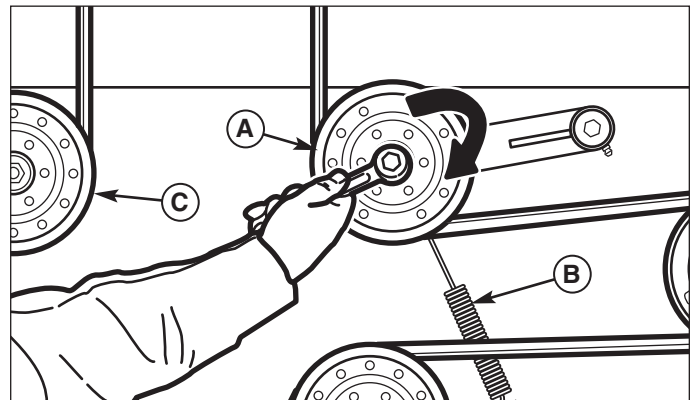
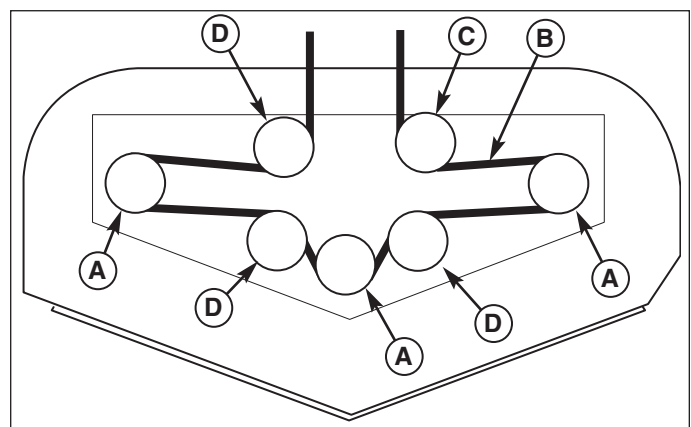

Figure 46. Mower PTO Belt
Figure 47. Mower PTO Belt Routing
4. Using a 3/4" combination wrench, rotate the spring-loaded idler pulley (A, Figure 46) clockwise to release the belt tension.
5. Slide the drive belt over the edge of the stationary idler pulley (C) and carefully release the tension on the wrench until the spring tension is completely released.
8. Rotate the spring-loaded idler pulley (A, Figure 46) clockwise and slide the drive belt over the edge of the stationary idler pulley (C). Make sure the V-side of the belt runs in the pulley grooves (Figure 47). Carefully release the tension on the wrench.